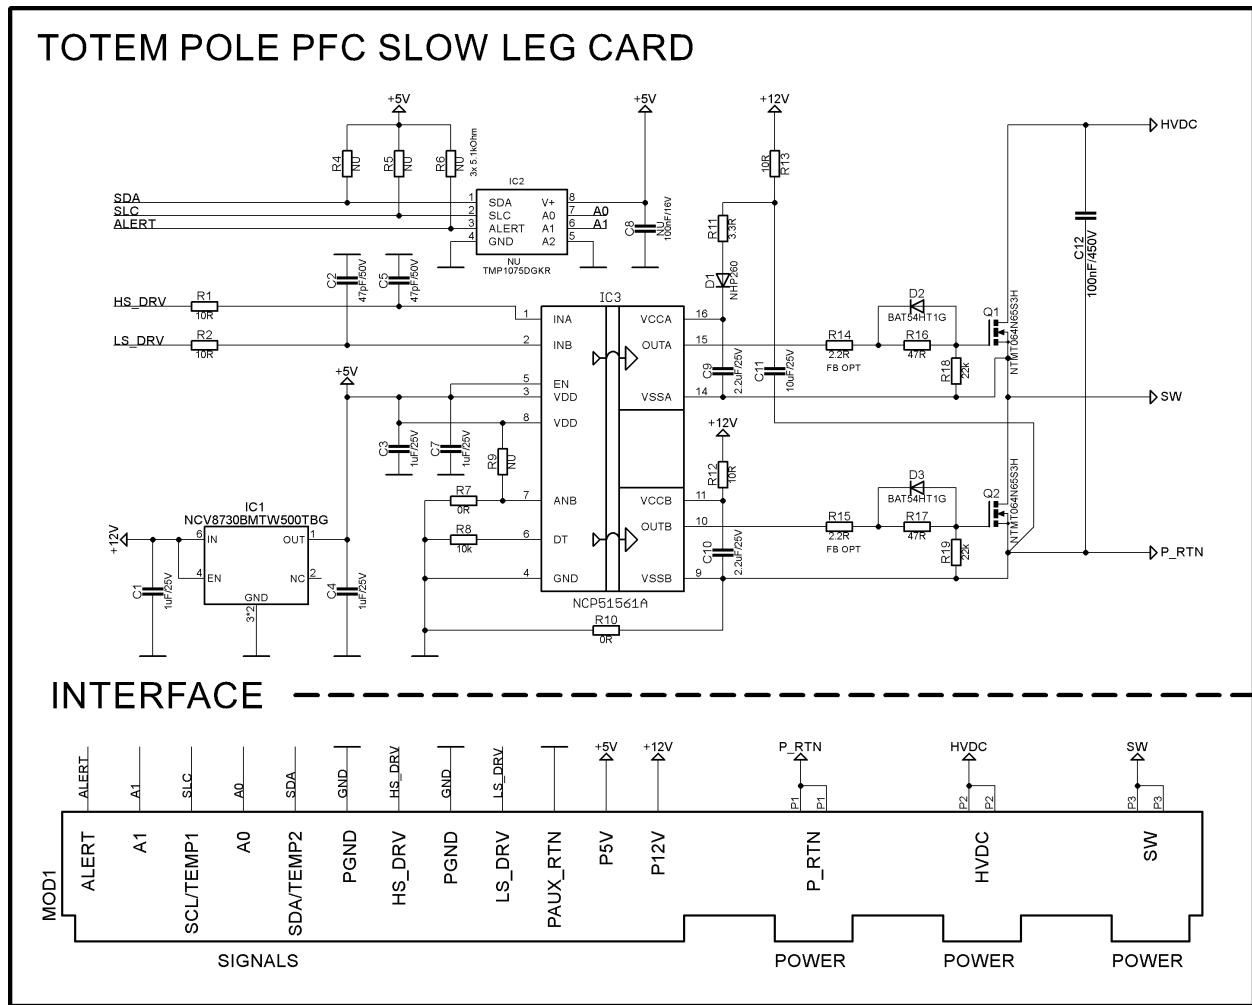
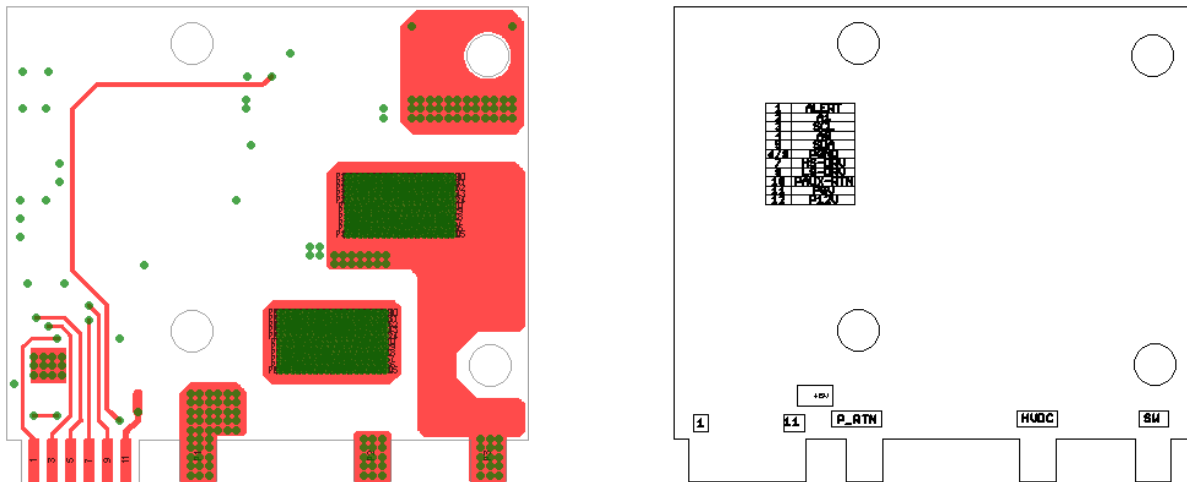

Figure 13. SLOW LEG CARD Schematic
Figure 14. Top Layer PCB Layout and Assembly Plan of SLOW LEG CARD
- SLOW LEG CARD – MOD_SL (Figure 13, Figure 14, Figure 15, Figure 16, Figure 17)
The SLOW LEG CARD is illustrated at several figures: schematic diagram in Figure 13, PCB layout and assembly plan in Figure 14, Figure 15, Figure 16 and photographs in Figure 17. The SLOW LEG CARD is a four-layer PCB based on 1.5 mm core width with 70 μ m outer copper plating and 70 μ m inner copper plating. The copper plating thickness was selected in order to reduce conducting losses and improve heat transfer. The MOSFET is bottom cooled device and generated heat is extracted from its exposed pad through subsequent cooling chain parts. Basically, heat is taken away from exposed pad, then passing through solder joint and the PCB vias to the opposite site of PCB where is distributed into copper plane, however lateral heat spreading is limited.